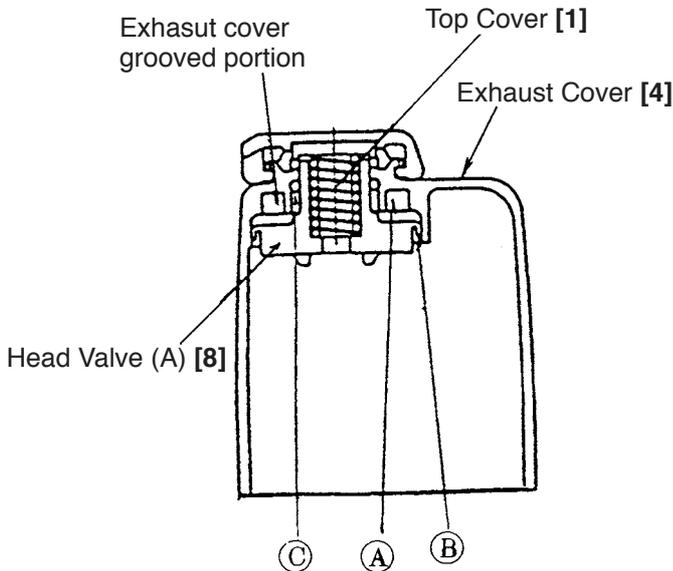

Fig. 14
- Reassembly of Head Valve (A) [8] is easier if it is pushed into the Exhaust Cover [4] together with the Head Valve Spring [6]. Prior to reassembly, liberally apply grease to the head valve sliding portion (A) of the Exhaust Cover [4] and rib portions (B) and (C) of Head Valve (A) [8], and insert grease (approx. 0.5 g) into the grooved portion of the Exhaust Cover [4]. (See Fig. 14.)
- When assembling Gasket (A) [5], ensure that its hole is properly aligned with the air hole on the Body Ass'y [20].